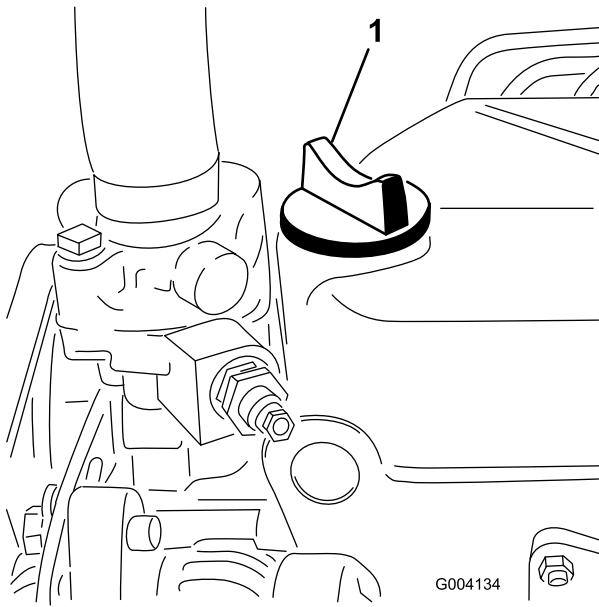

Figure 29
5. If the oil level is below the Full mark, remove the fill cap (Figure 29) and add oil until the level reaches the Full mark on the dipstick.